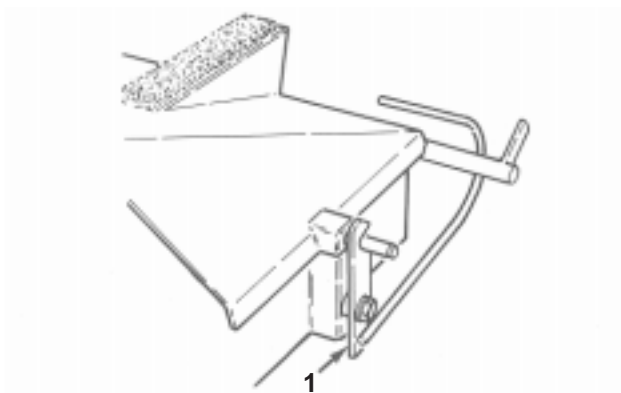

Figure 22
1. Adjust latch assembly (Fig. 22) up or down if cover does not seal properly or if cover does not latch when operating.